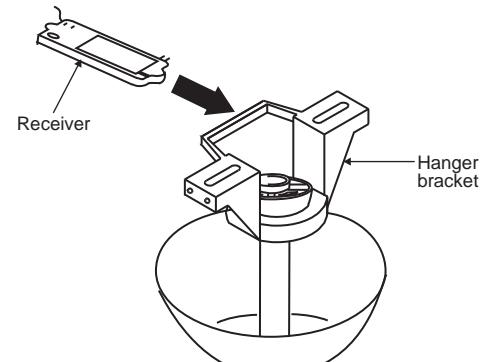

Fig. 13
Step 1. Insert the receiver into the ceiling mounting bracket with the flat side of the receiver facing the ceiling. (**Fig. 13**) For best performance, make sure the Black Antenna, on the end of the receiver, remains extended and not tangled with any of the electrical wires.